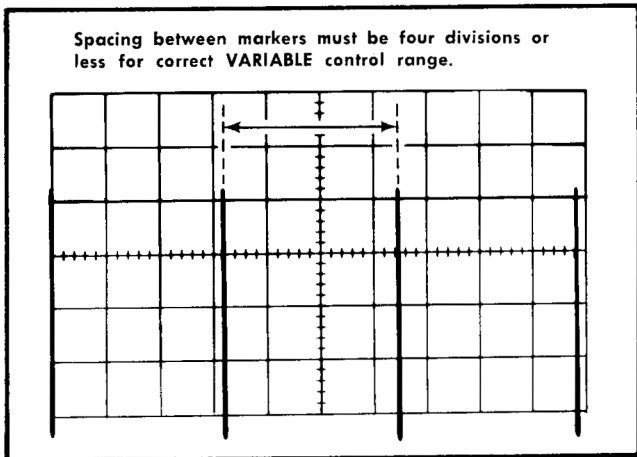

Fig. 5-25. Typical CRT display when checking A and B VARIABLE control range.
f. CHECK—CRT display for four-divisions maximum spacing between markers (indicates adequate range for continuously variable sweep rate between the calibrated steps; see Fig. 5-25). UNCAL A OR B light must be on when A VARIABLE control is not in CAL position.
d. CHECK—CRT display for four-division maximum spacing between markers (indicates adequate range for continuously variable sweep rate between the calibrated steps; see Fig. 5-25). UNCAL A OR B light must be on when B VARIABLE control is not in CAL position.